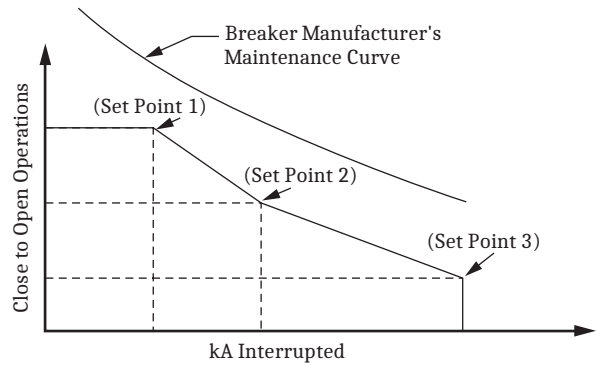

Figure 21 Breaker Contact Wear Curve and Settings
- ▶ Every time the breaker trips, the relay integrates interrupted current. When the result of this integration exceeds the threshold set by the breaker wear curve (Figure 21), the relay can alarm via an output contact or the optional front-panel display. With this information, you can schedule breaker maintenance in a timely, economical fashion.